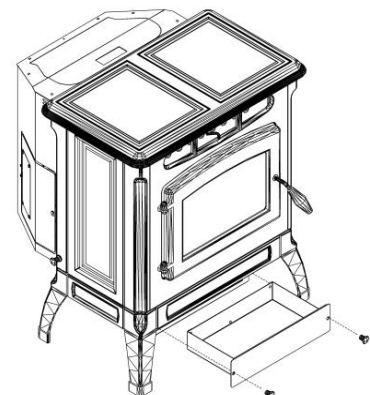

FIGURE 18
- Periodically remove and empty ash bin (see Figure 18) by unscrewing the two knobs on the front of it and pulling it straight out. Dispose of ashes properly. (See "ASH REMOVAL" above)